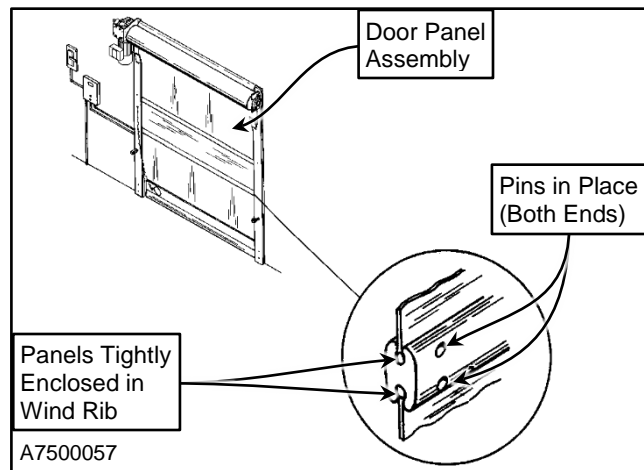

Figure 18
2. Check all panels to ensure they are tightly enclosed in the wind ribs and pins are in place in wind ribs. (See Figure 18)